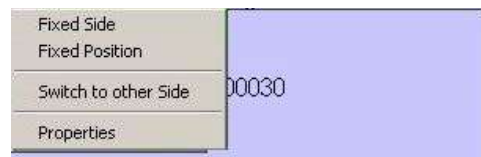

Figure 295: Overview Context Functions – Container
- Parts that are only used for certain processes and only have to be supplied to these stations, as in the case of frequently changing product variants, for example. For these parts it is recommended to fix the containers to a material supply area. Only then are you able to control whether the container is to be replaced while moving the process and whether, for example, the walkways are still optimally specified for the employee when executing the process. *Please refer to the Figure 295.*